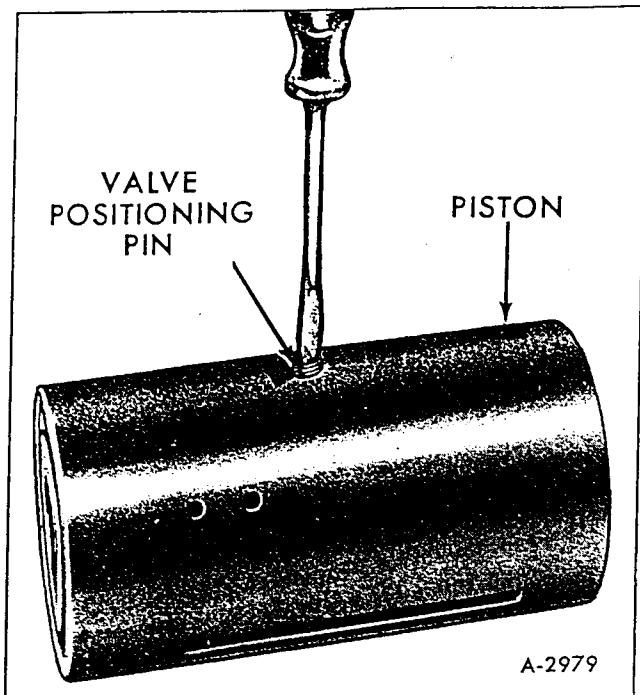

Figure 26 – Removing Valve Positioning Pin
5. Use a screwdriver to remove valve positioning pin from piston (fig. 26).
11. Install valve positioning pin in piston. Turn pin inward with a screwdriver until it is below outside surface of the piston. The flats must enter into the piston 1/4-inch to engage mating slot in the valve (fig. 26).